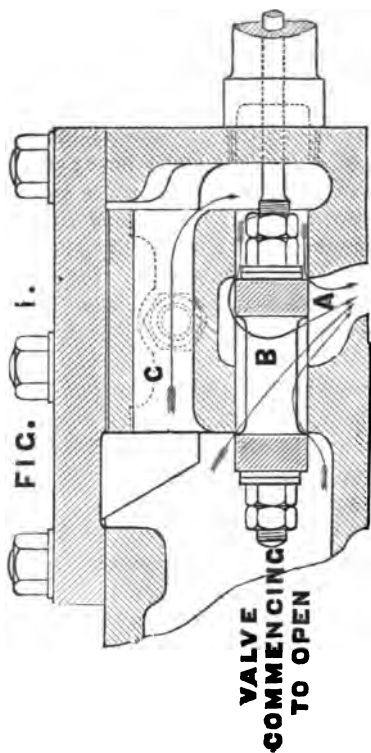
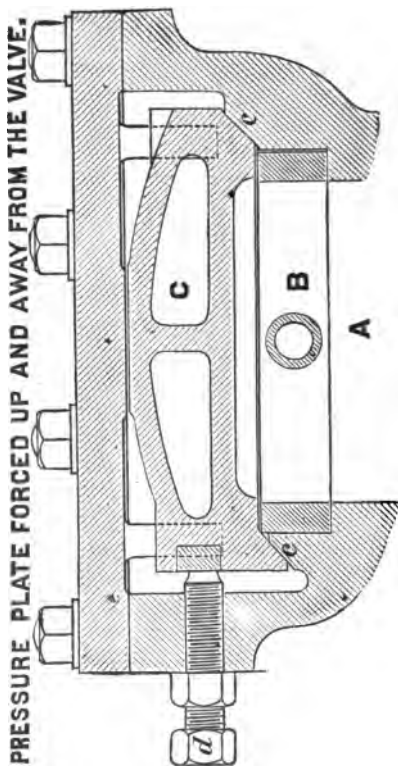

FIG. 118. PORTER-ALLEN VALVE.
FIG. 120. PORTER-ALLEN VALVE.
**A.** By means of the equilibrium plates, which are shown in Figs. 118 to 121 inclu-
sive, which give sections through the steam chest at one end of the cylinder. Figs. 118 and 119 are horizontal sections showing the four opening valves ; first, when commencing to open (the arrows indicating the course of the steam), second, at the extreme point of the lap. Figs. 120 and 121 are vertical sections showing the pressure plate ; first, when by turning the bolt *d* forward, it is forced up the inclines and away from the valve, leaving a bad leak ; and second, when it is let down to its proper working position.